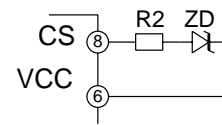

Fig. 26 Overvoltage shutdown circuit (2)
To attain overvoltage protection, the CS pin voltage is forcibly raised from outside the IC until it exceeds the reference voltage (8.5V) of the internal comparator C2. When the reference voltage is exceeded, the IC enters latch mode and shuts the output down. Connect a zener diode (ZD) and resistor between the VCC and CS pins as shown in Figure 26. When the Vcc voltage exceeds about ZD voltage +8.5V, the IC enters the OFF latch mode and shuts the output down. If Vcc remains high even after shutdown and current is input to the CS pin, set the current to 1mA or lower. Set the zener voltage of the ZD connected to the CS pin higher than the UVLO ON threshold voltage. Startup is disabled below this voltage.